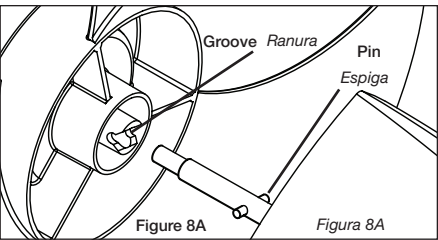

Figure 8A: Blade hub assembly.
9. Fully seat Rear Grill and secure with Plastic Nut turning Clockwise. Slide Blade onto Motor Shaft. (Figure 8) Align Groove on blade hub with Pin on motor shaft. (Figure 8A)